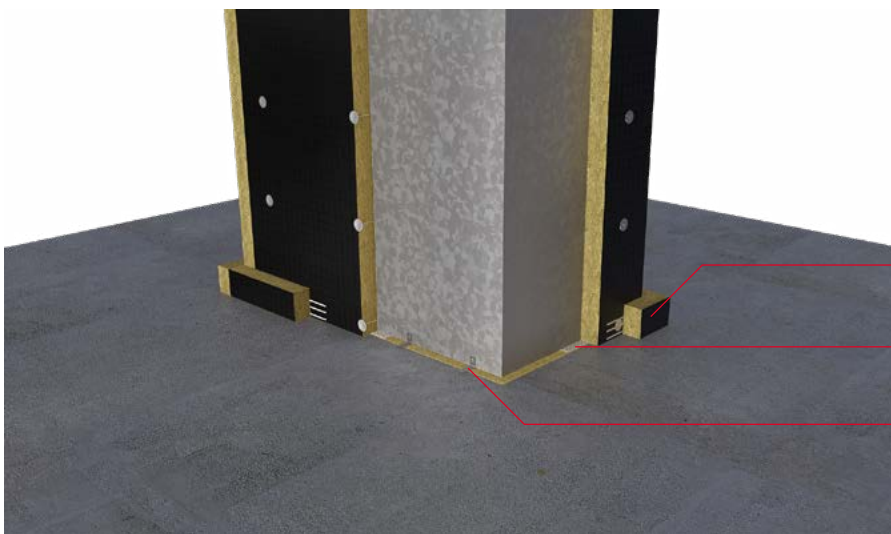

Figure 11a
1. Maintain a 30mm gap between the ductwork and floor structure. Fill the gap between the duct and the floor structure with a ROCKWOOL Slab e.g. ROCKWOOL RWA45 as shown in Figure 11a. The flexible slab can be sealed within the void using FirePro Glue.
3. Apply a DuctRock collar to the perimeter of the aperture and on both sides as shown in Figure 11a. The collars can be fixed using FirePro Glue and temporarily held in place with nails until the glue cures.